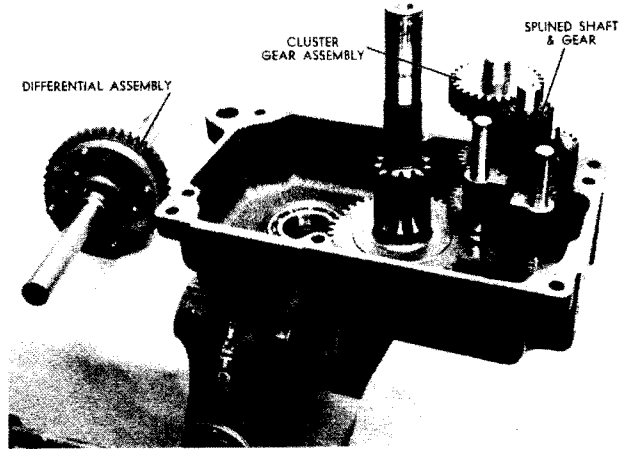

FIGURE 19
- Install the splined shaft and gear through the two splined sliding gears seating the bottom end of the shaft into the input gear bearing. See Figure 19. Install the cluster gear assembly carefully seating it in its bearing and meshing it with its related gears.